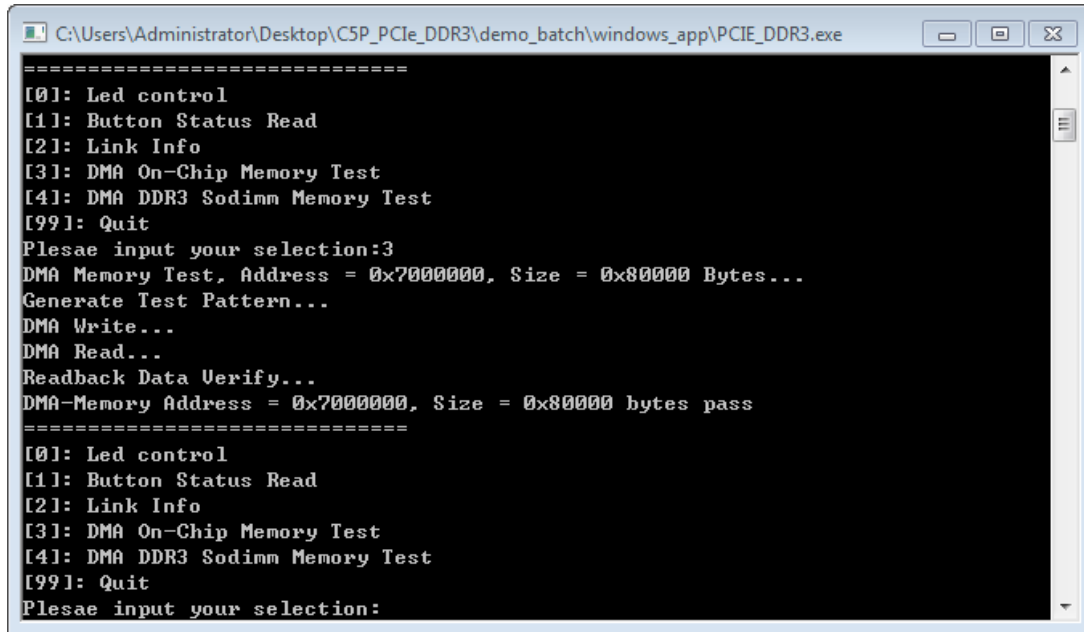

Figure 7-17 Screenshot of the On-Chip Memory DMA Test Result
7. Type 3 followed by the ENTER key to select the DMA On-Chip Memory Test item. The DMA write and read test result will be reported as shown in Figure 7-17.